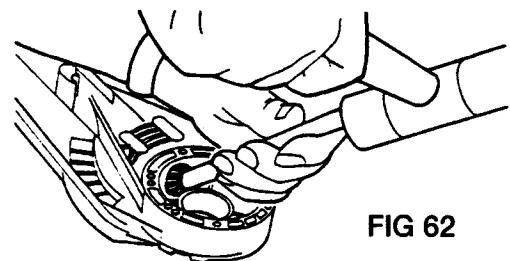

FIG 62
7. With a copper or brass punch (a 7/16" brass or copper shaft about 10" long), hold housing and tap pinion shaft out (Fig. 62).